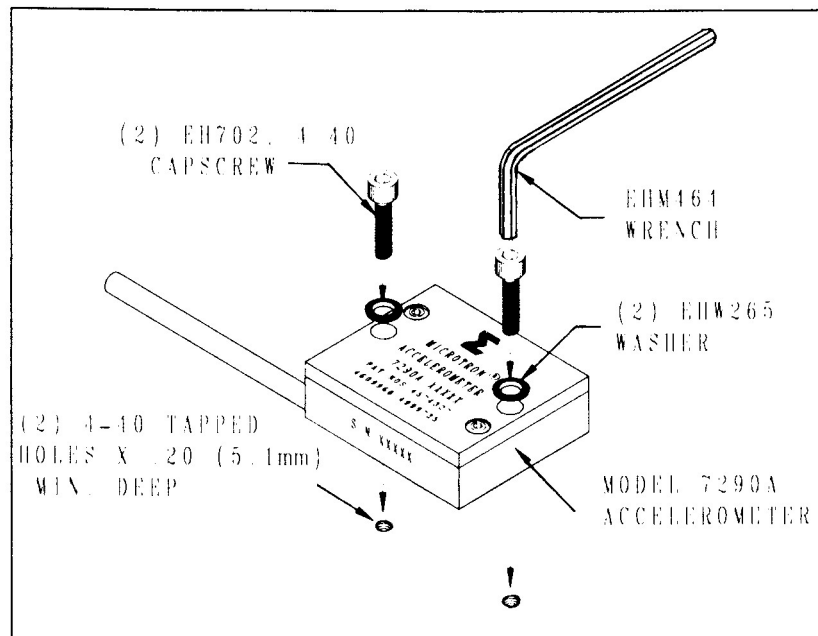

FIGURE 1- Installation of Model 7290A Microtron Accelerometer
All the materials used in the mounting of the Model 7290A Microtron accelerometer are supplied with the unit in the shipping container. These materials, as shown in Figure 1, include:
2. If possible, do not cement the unit to the mounting structure. Use the supplied mounting washers and screws, as shown in Figure 1. Metric size screw M3 may also be used. Note: Adhesive mounting may be used, if necessary. Adhesion of epoxies to the hard anodized case is excellent, but thermal mismatch to the mounting surface can degrade the joint. A compliant adhesive, such as Dow Corning 3145 RTV, is recommended. Use care to maintain flatness of the unit during curing to reduce cross talk errors.